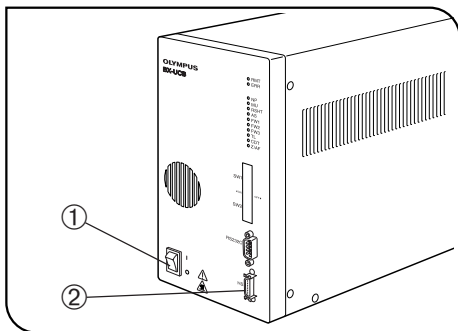

Fig. 4
▲ Make sure that the main switch ① of the control box to “○” (OFF) before connecting the cable of the Hand Switch (and other modules) and the power cord. (Fig. 4)
### 1 Connecting the Hand Switch Cable (Fig. 4)